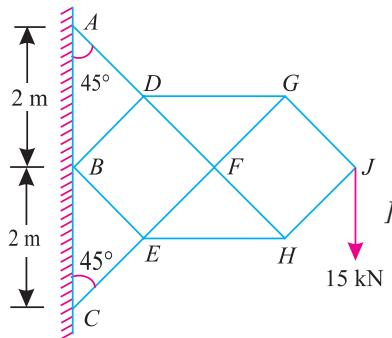

Fig. 14.29.
**Example 14.12.** A cantilever truss shown in Fig. 14.29 is carrying a point load of 15 kN.